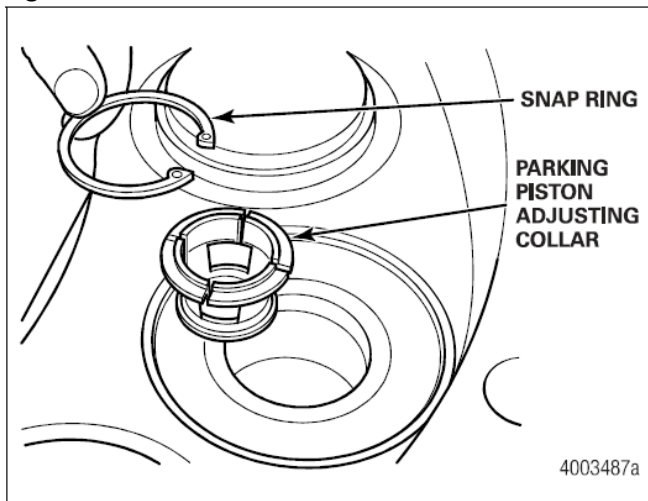

Figure 3.8
- Use suitable snap ring pliers to remove the parking piston adjusting collar retaining snap ring from inside the groove of the parking piston. Figure 3.8